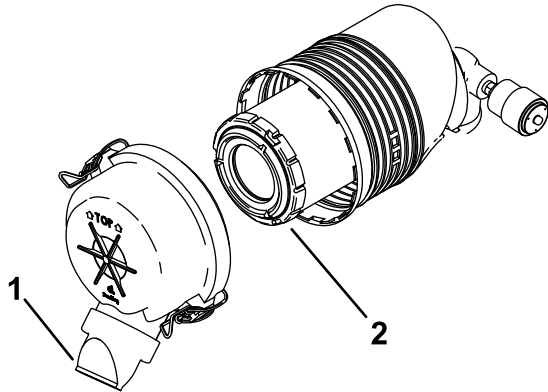

Figure 41
5. Install the air-cleaner cover with the dust cap oriented downward as shown in Figure 41 and secure the latches.